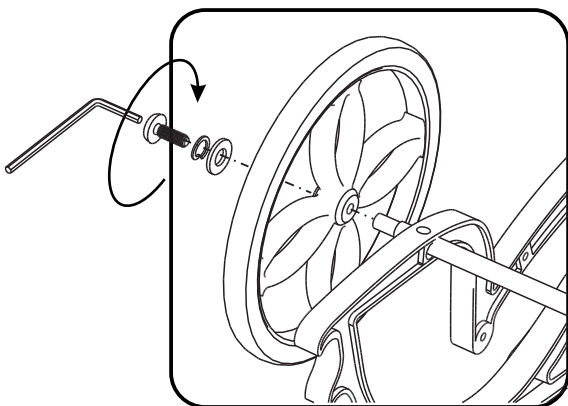

Figure 3
Orientate Wheels (G) so large hole in center of Wheels (G) is to outside of unit, then attach Wheels (G) to unit with Head Cap Bolts (short), Spring Washers and Flat Washers, tightening Head Cap Bolts only halfway. (See Figure 3)